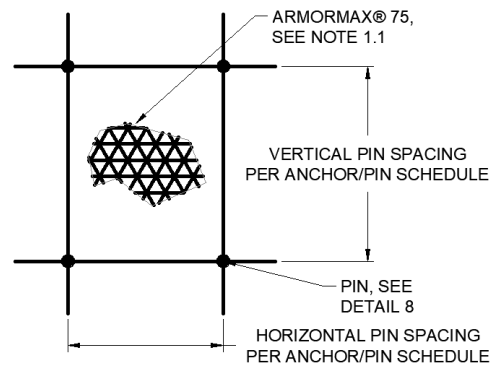
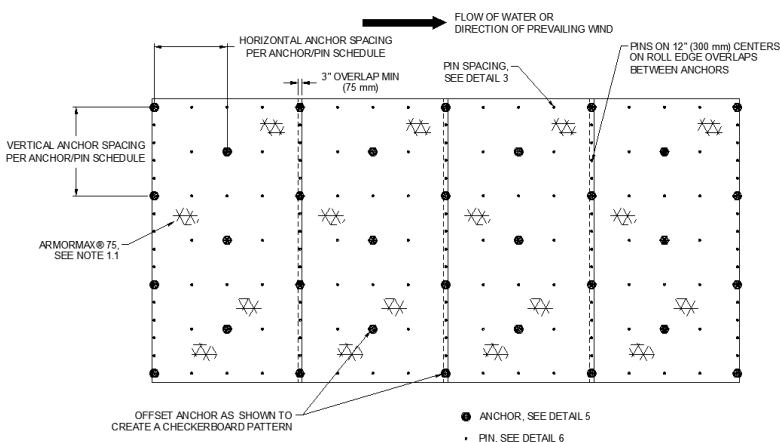

Figure 10: Example Pin Pattern
Figure 11: Example Anchor Pattern - 0.5 Anchors/SY
10. Secure **PROPEX** Armormax panels in place using pins and anchors across the channel surface according to the project's engineered design. Pin and anchor placement should reflect a staggered checkerboard pattern across the channel surface for best results (Figure 10 and Figure 11).
- Roll edges shall be overlapped a minimum of 3 in (75 mm) and a maximum of 6 in (150 mm) with pins placed on 12 in (300 mm) centers in between anchors on 4 ft (1.2 m) centers (Figure 11).